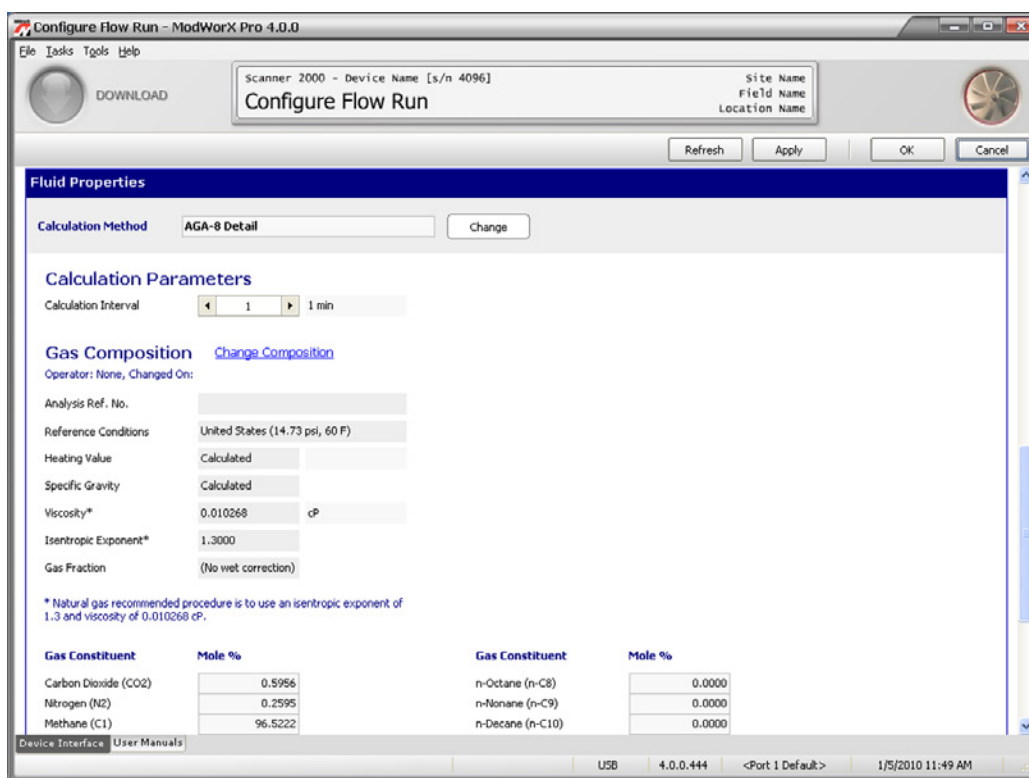
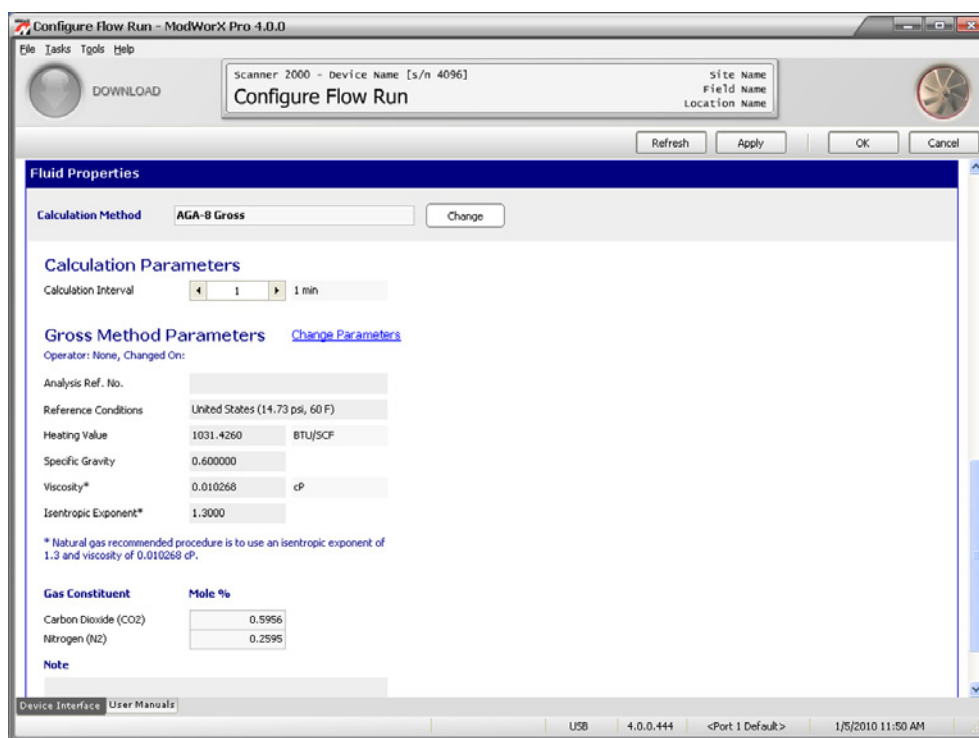

Figure 4.13
Figure 4.14
The contents of the Fluid Properties section of the Configure Flow Run screen vary, depending on the product being measured (gas, steam or liquid) and the fluid property calculation method selected. For example, when calculating gas flow with the AGA-8 Detail method, fluid property parameters include an extensive list of gas constituents (Figure 4.13, page 64). When the AGA-8 Gross method is used, only two gas constituents are configured. When calculating steam with a wet correction, only steam quality is configurable. Use the following steps to configure all fluid properties for the Scanner. When calculating liquid flow, density and viscosity values are configurable.
- If the flow run is configured for gas measurement, the Fluid Property section of the Configure Flow Run screen will display either Gas Composition information (AGA-8 Detail; see Figure 4.13), or Gross Method Parameters (AGA-8 Gross; see Figure 4.14, page 65). To change a parameter, click on the blue **Change Composition or Change Parameters** hyperlink and follow the screen prompts.